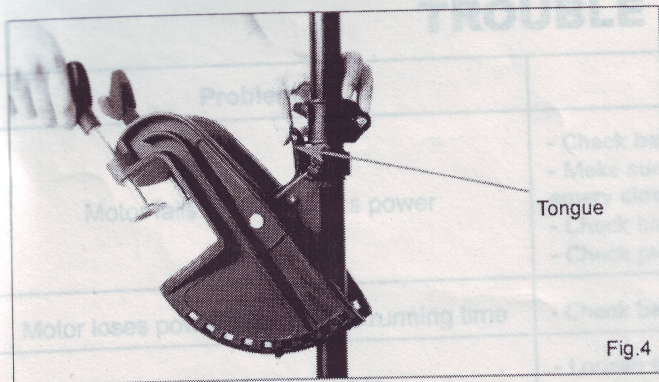

Fig.4
1. Press the tongue to adjust the angle of the bracket. (See Fig.4)